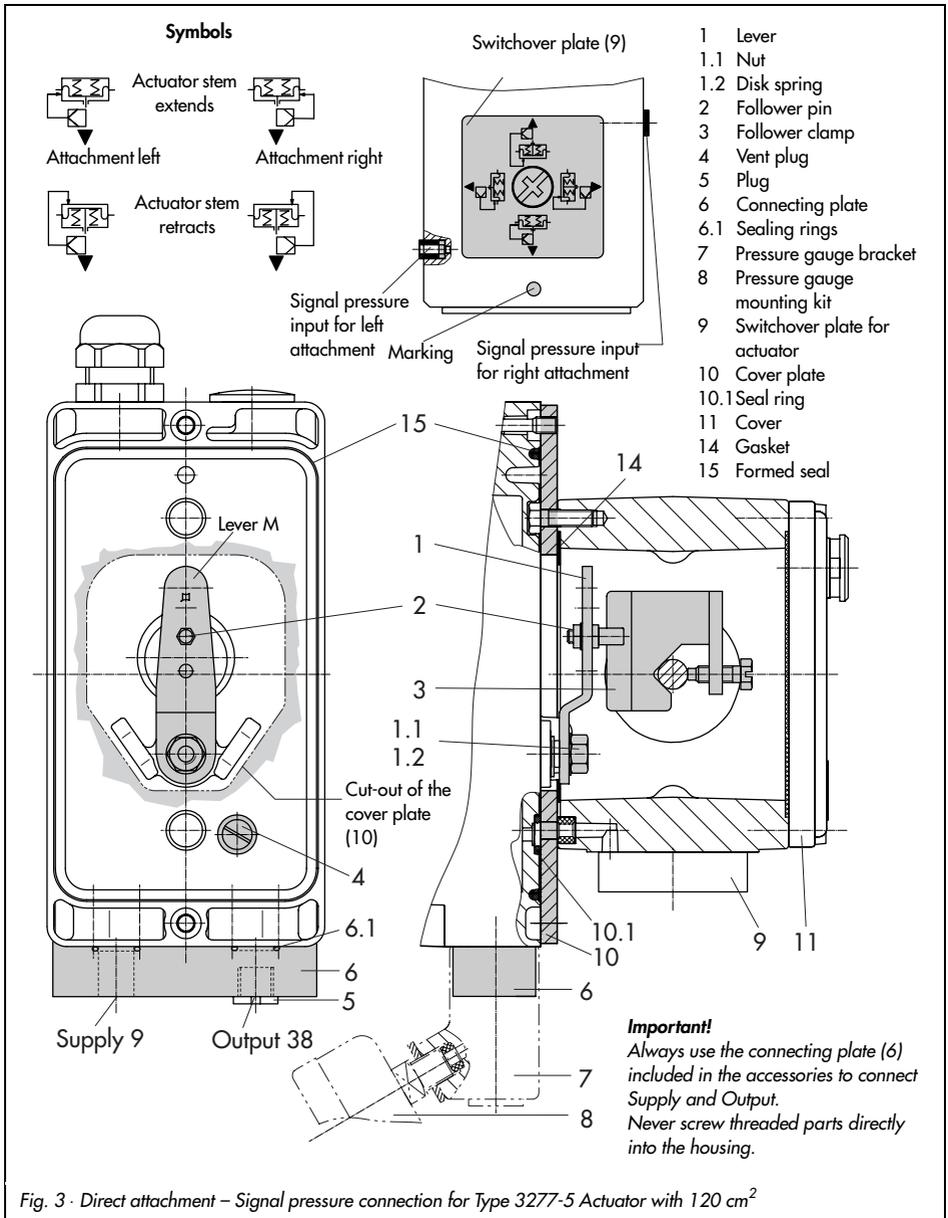

Fig. 3 · Direct attachment – Signal pressure connection for Type 3277-5 Actuator with 120 cm²
1. Mount connecting plate (6) or pressure gauge bracket (7) with pressure gauges onto the positioner, making sure both seal rings (6.1) are seated properly.
2. Remove vent plug (4) on the back of the positioner and close the signal pressure output "Output 38" on the connecting plate (6) or on the pressure gauge bracket (7) with the plug (5) included in the accessories.
3. Place follower clamp (3) on the actuator stem, align and screw tight so that the mounting screw is located in the groove of the actuator stem.
4. Mount cover plate (10) with narrow side of the cut-out opening (Fig. 3, left) pointing towards the signal pressure